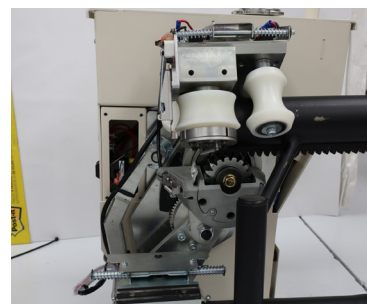

Figure 3-18
3. Slide the chassis on until the pinion gear hits the gear rack. Activate the installation rocker switch to drive onto the rack, watching the wheels to ensure they go on smoothly. Ensure the unit goes down the gear rack about 6" (15.2 cm). *See Figure 3-18.*